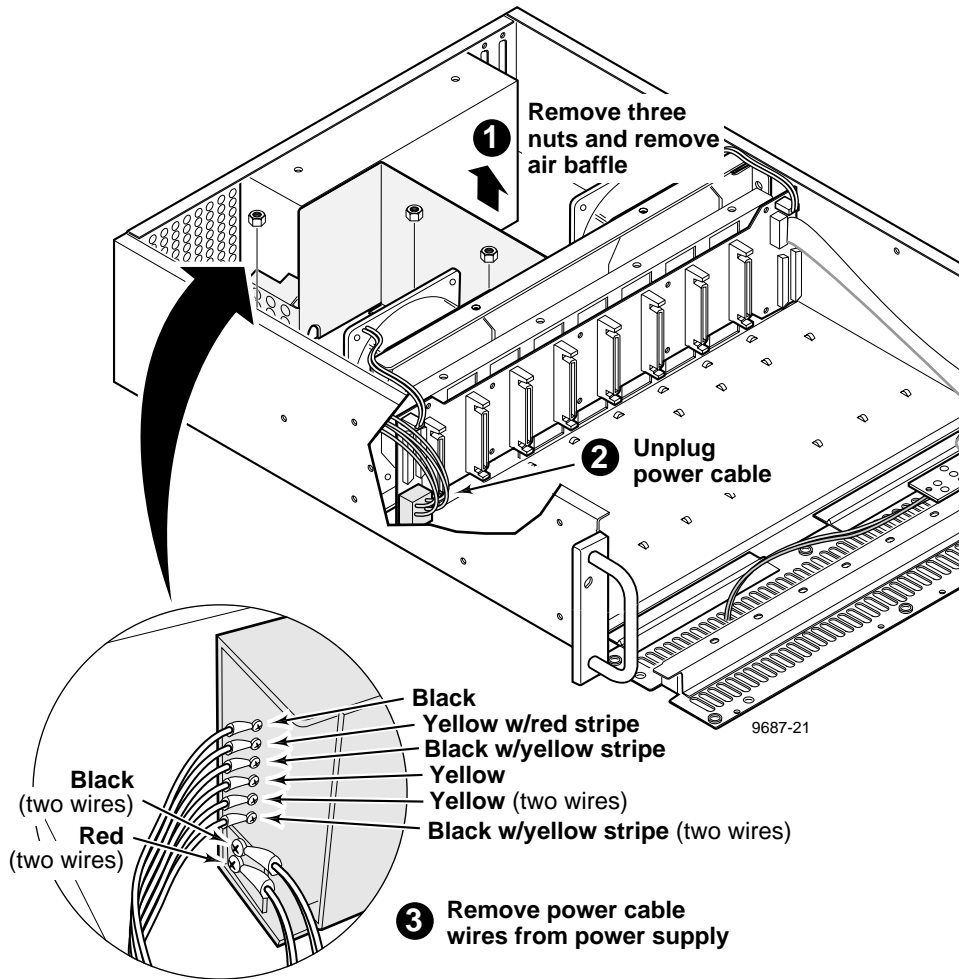

Figure 3-11. Removal of the SCSI Distribution Board Power Cable
Figure 3-11 shows removal of the cable that provides power from the Power Supply to the SCSI Distribution board (item 6 in Table 3-1).
5. Disconnect the Power Supply connector from the SCSI Distribution board (Figure 3-11).
1. Connect the cable wires to the left side (as facing the chassis) of the Power Supply (see the insert in Figure 3-11).